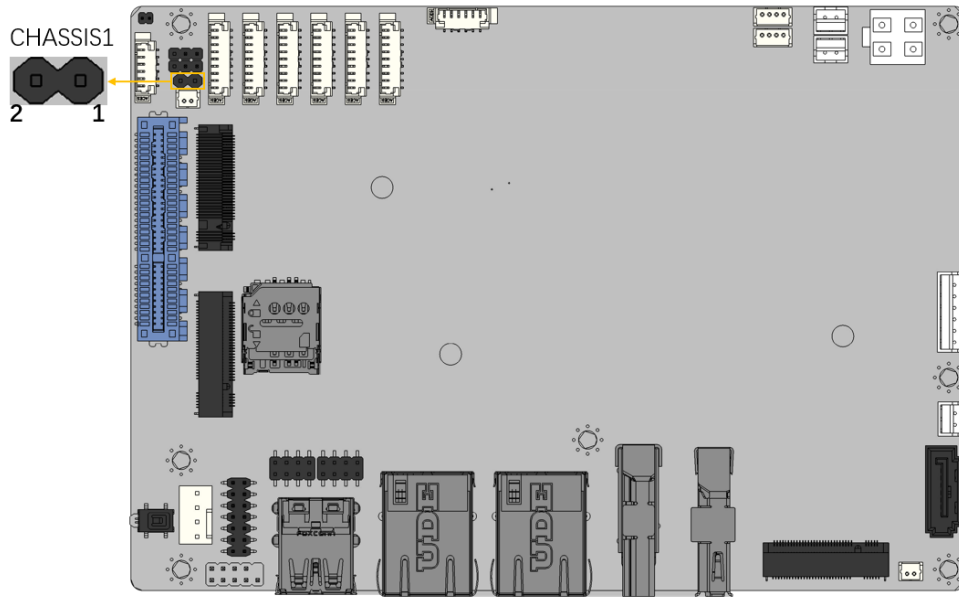

Figure 3-10 Chassis Open Connector Location
- CN Location:** See **Figure 3-10**